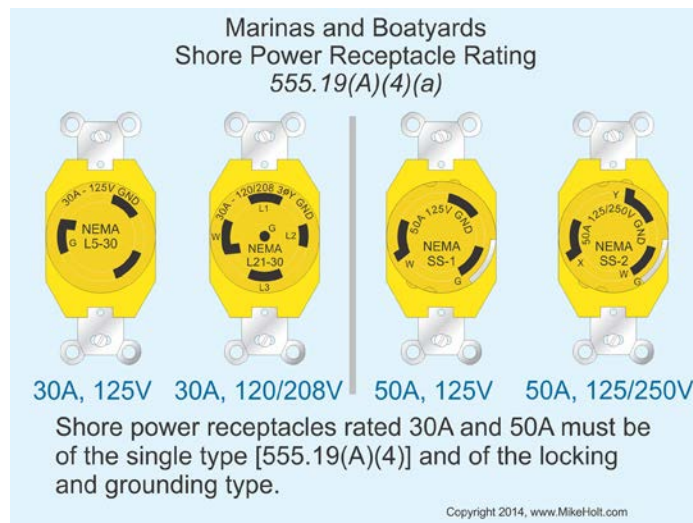

Figure 555-17
**(1) Enclosures.** Receptacles intended to supply shore power to boats must be part of a listed marina power outlet enclosure, be installed in listed enclosures protected from the weather, or in listed weather-proof enclosures. The integrity of the assembly must not be affected when the receptacles are in use with a booted or nonbooted attachment plug/cap inserted.
**(3) Branch Circuits.** An individual branch circuit of the voltage class and rating corresponding to the rating of the receptacle must supply each receptacle that supplies shore power to boats.
**(4) Ratings.** Single receptacles that provide shore power for boats must be rated not less than 30A.
- (a) Receptacles rated 30A and 50A must be of the locking and grounding type. Figure 555-17